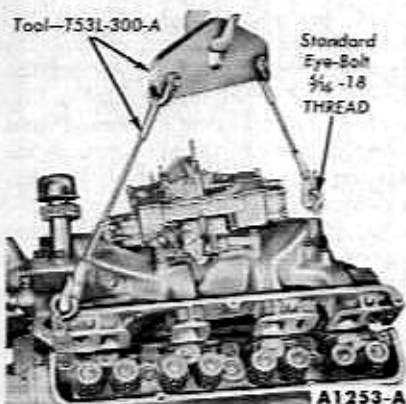

FIG. 15—Intake Manifold Removal or Installation
16. Install standard eye bolts with 5/16-18 threads in the left front and right rear rocker arm cover screw holes and attach the engine lifting sling (Fig. 15).